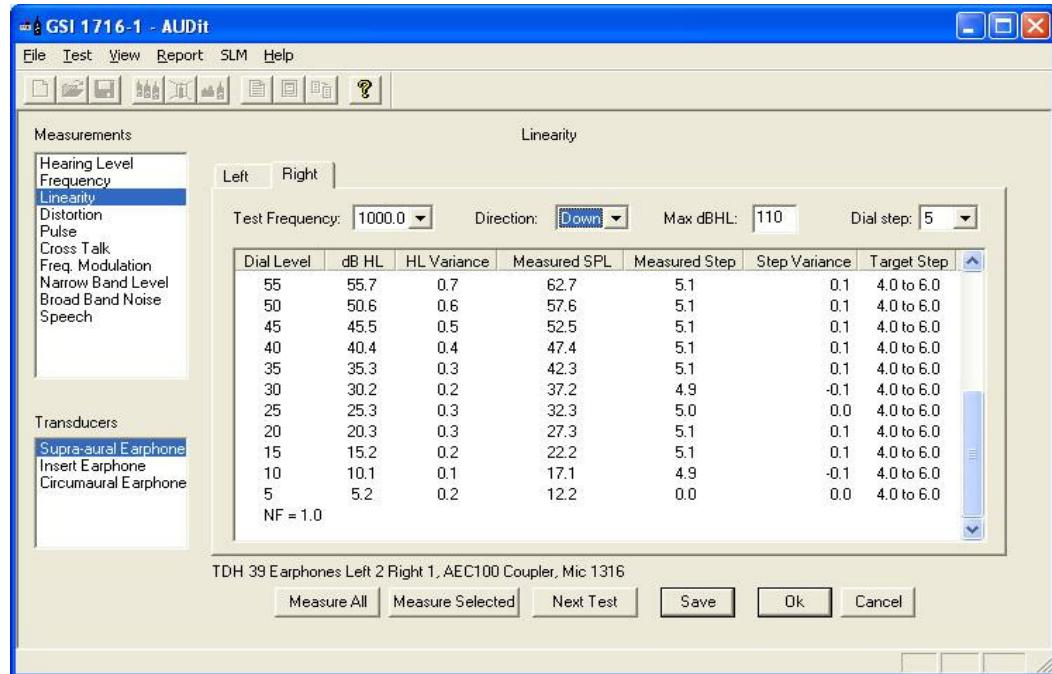

FIGURE 8-1 Linearity Measurement Screen
Step 5 Set the audiometer to the prompted level and frequency and then click **OK**. There may be a delay while the measurement system gain is adjusted. Once the noise floor has been measured (e.g. 1.0 dB), it will appear on the Linearity screen (FIGURE 8-1).